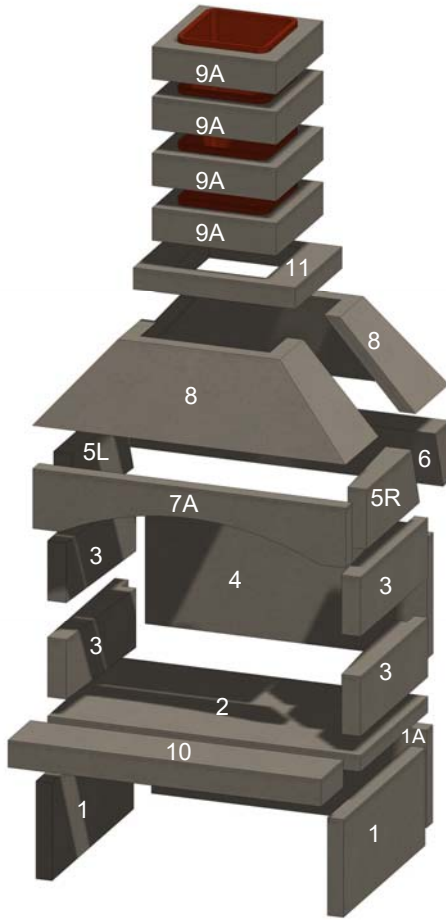
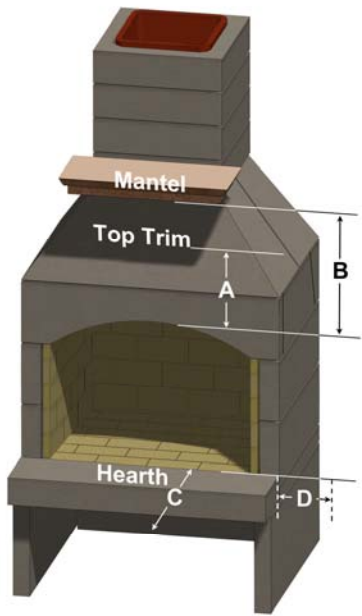

Figure 2. Fireplace Components
Figure 3. Clearances (Use with Table 2)
The fireplace is delivered as a kit with all components necessary to complete the installation. Component arrangements are shown in Figure 2. Components are listed in Table 1. Specifications and installation dimensions are shown in Table 2.
- A. Fireplace items shown in Figure 2 and listed in Table 1.
Table 2: Clearances (See Figure 3)
Note 5: Clay flue liners installed in flue section (item 9A, Figure 2) meet the specifications of ASTM Section C315-02.
Select a location in the home plans or outdoor living area where all the minimum distances, as shown in Table 2 and Figure 3 can be met. Proceed as follows. Numbers in () are item numbers from Table 1 and Figure 2. Ensure the base on which the fireplace is to be installed is a solid and level foundation and is composed of non-combustible material, such as concrete.
If the unit is to be installed indoors, do not use the Riser Legs (items 1 and 1A, shown in Figure 2 and Table 1). Instead, install the fireplace on a solid base, such as a cement pad or concrete blocks. Two courses of 8” tall block will be slightly shorter than the riser legs of the kit.
If this is your first Stone Age installation, it is suggested that you first assemble the components without mortar to familiarize yourself with how the components fit together. See Figure 2.
R. Ensure the Table 2 and Figure 3 clearances and distances are maintained. Ensure that the hearth and flooring under and in front of the hearth are made of fully non-combustible materials, not just a non-combustible floor covering. When the hearth installation is complete, if the chimney complete and is not continuing through a roof or structure, you are ready to install the exterior finish. If the chimney will be continuing through a roof or structure proceed to Paragraphs 4.0 and 4.1 before beginning the finish application.
If installing a mantel and side trim, particularly if it is wood or other combustible materials, ensure the minimum distances shown in Table 2 and Figure 3 are met.